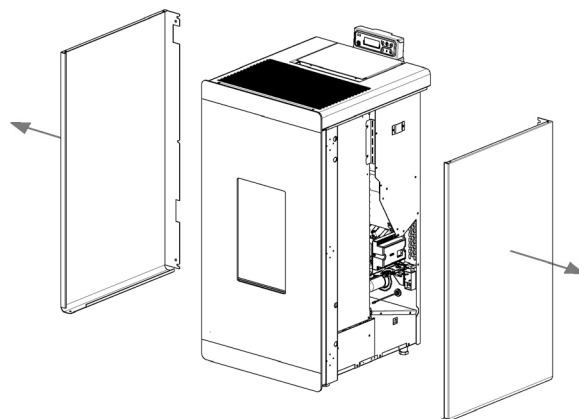

Fig. 70 - Remove side panels
- Remove the side panels (see **Fig. 70**).